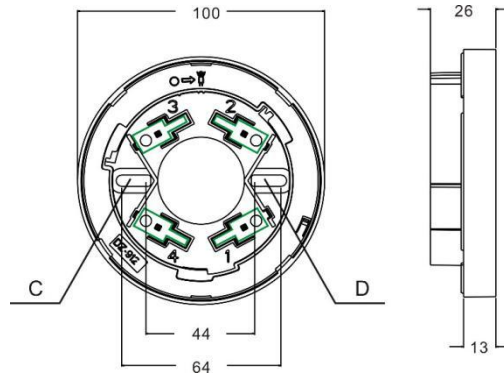

Fig.6(unit:mm)
A self-contained complete base is necessary during the installation of a detector. As shown in Fig.6, the model, the external dimensions, the mounting hole diameter and the mounting hole spacing of the base are DZ-912,  $\Phi 100\text{mm} \times 26.4\text{mm}$  (diameter $\times$ thickness),  $\Phi 4.5\text{mm}$  and  $44.5\text{mm} \sim 64.3\text{mm}$  respectively.
2. Use two M4 screws to fix the matched mounting base on the designated position via the mounting holes A and B shown in Fig.6 as instructed in the construction drawing and make sure the matched mounting base has been firmly installed.